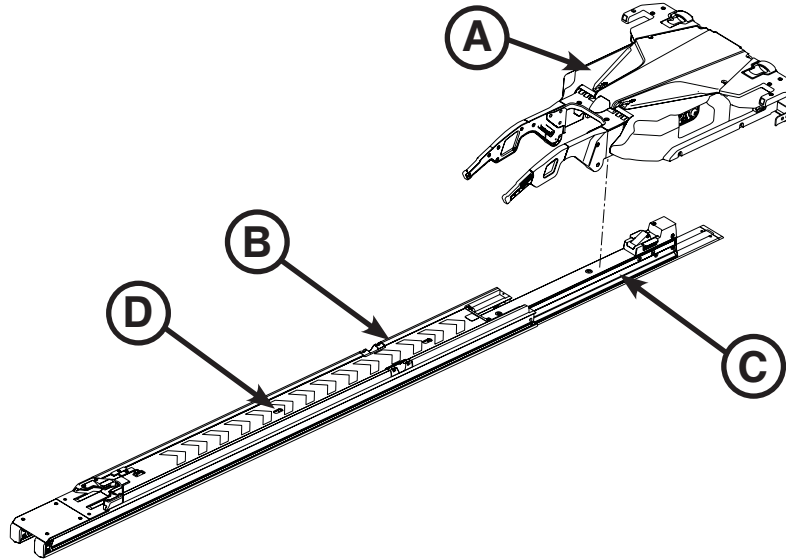

Figure 21: Position the Trolley Assembly
9. Position the trolley assembly (A) between the transfer assembly (B) and head end of the anchor assembly (C) on the floor as shown in Figure 21.
12. Slide the black release (closest to the foot end) (D) of the transfer assembly to unlock as shown in Figure 21.